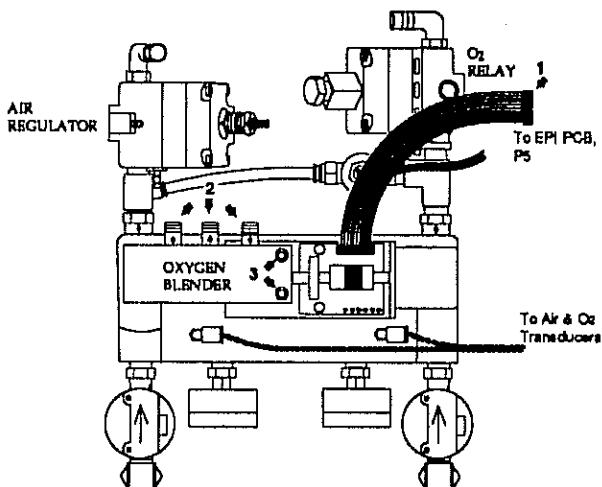

Figure 8-3
1. Remove the ribbon cable (Figure 8-3, Ref. 1) at its connection on the EPI PCB.
2. Mark or tag the PVC hoses (Figure 8-3, Ref. 2) coming from the Blender and remove.
3. Remove the two mounting screws (Figure 8-3, Ref. 3) and remove the Blender from the from the ventilator.